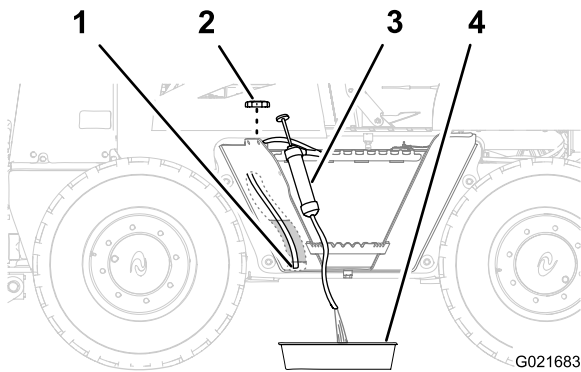

Figure 52
1. Remove the fuel cap from the fuel tank (Figure 52).
2. Route the intake hose of the siphoning equipment through the filler neck of the fuel tank and to the bottom of the tank (Figure 52).
3. Direct the discharge hose of the siphoning equipment into a drain pan (Figure 52).
6. Install the fuel cap onto the filler neck of the fuel tank (Figure 52).